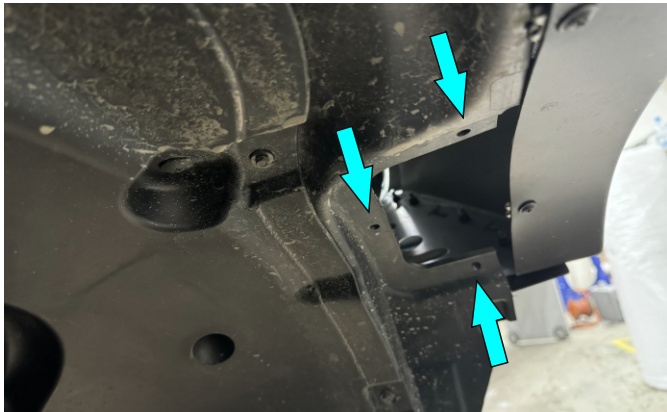

Fig.42
42. Secure factory hatches using factory fittings (fig.42).